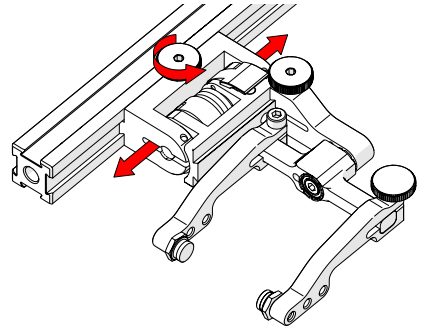

Fig. 115 - Adjust on frame bar
2. Use the probe holder adjustment knob to position the probe holder along the frame bar (Fig. 115).